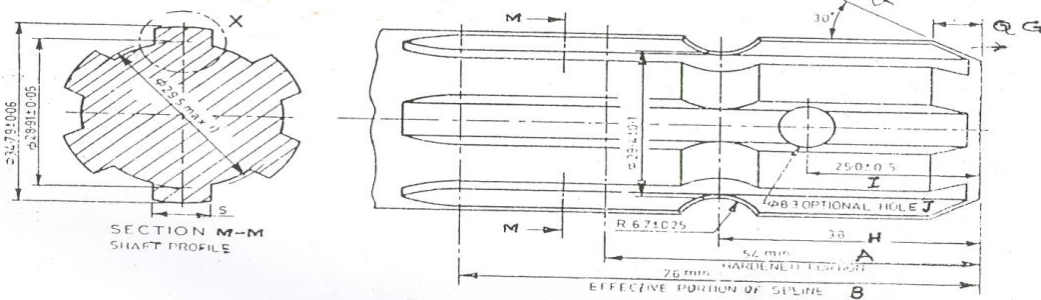

Fig. 2: Dimensions of Implement Power Input Shaft, mm
7.1 Dimensions of Splined end of pinion shaft, (mm) (Refer Fig. 2) :